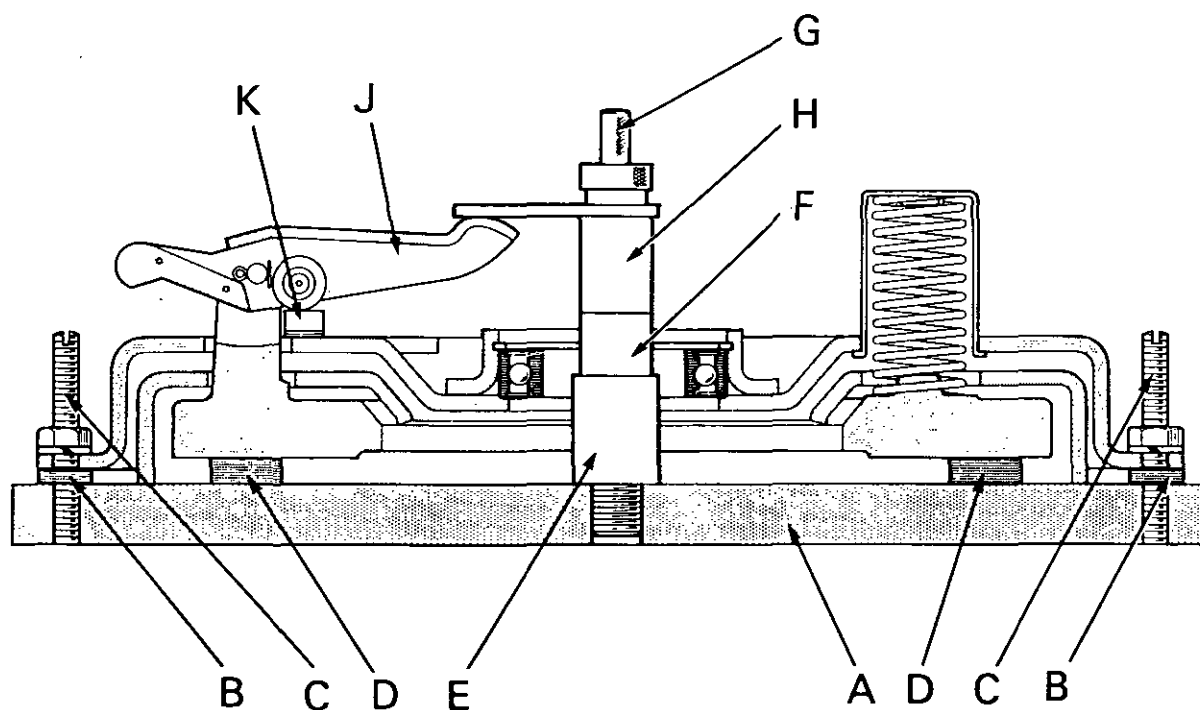

Figure 28. CHECKING RELEASE LEVER HEIGHT — BORG AND BECK
7. Remove actuator and fit centre pillar in its place. Place the appropriate spacer, Code 8 on a 10/10 in. clutch and Code 16 on a 11/10 in. clutch, on the centre pillar, with the recess downwards, and then fit the single checking finger. (Fig. 28.)